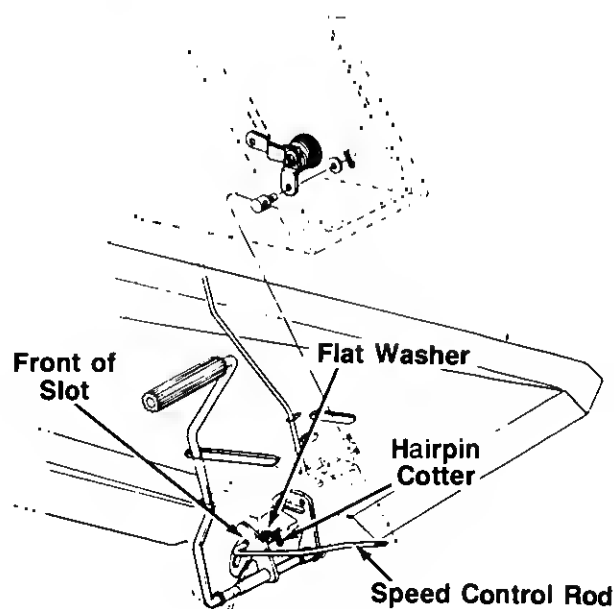

FIGURE 20.
7. Disconnect the speed control rod by removing the hairpin cotter and flat washer. See figure 20.
9. Adjust the rod by threading it in or out of the ferule until it is all the way to the front of the slot as shown in figure 20.